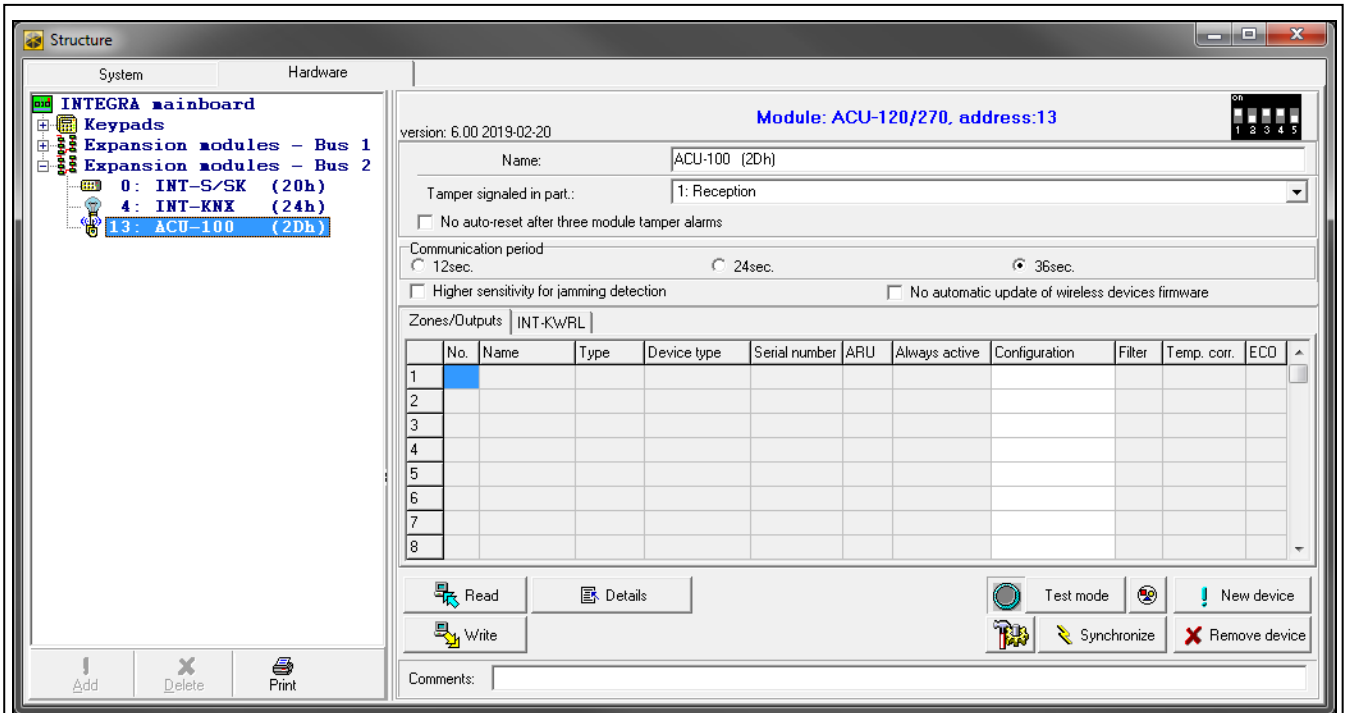

Fig. 21. DLOADX program: parameters and options of the controller connected to INTEGRA / INTEGRA Plus control panel.
- DLOADX program: “Structure” window → “Hardware” tab → “Expansion modules” branch → *[controller name]* (Fig. 21).